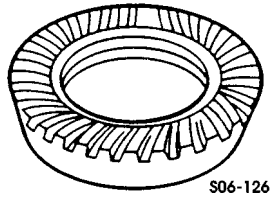
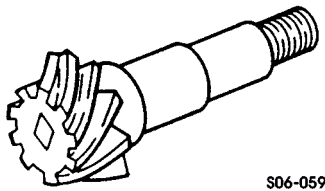

Figure 9-71: Ring Gear
Figure 9-72: Pinion Gear
2. Inspect splines and gear teeth on pinion gear and ring gear for damage. Replace both pinion gear and ring gear if either is damaged (Figure 9-71: and Figure 9-72:).